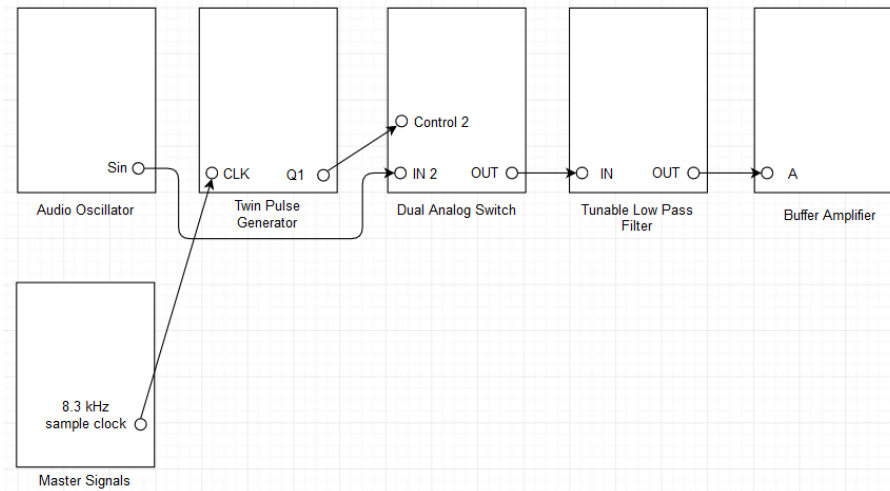

Figure A.5.1: Setup for sampling theorem.
- ii. Make the setup as shown in the Figure A.5.1.